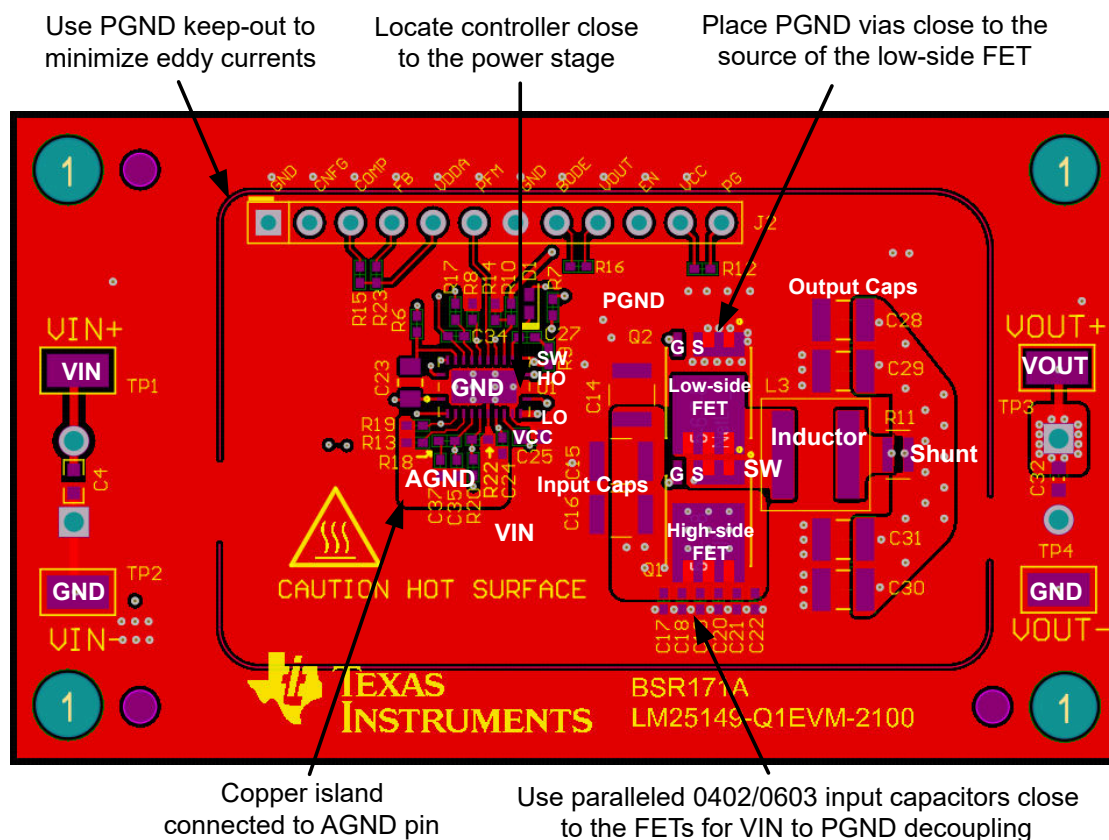

Figure 8-47. PCB Top Layer – High Density, Single-sided Design
Figure 8-47 shows a single-sided layout of a synchronous buck regulator with discrete power MOSFETs, Q1 and Q2, in SON 5-mm × 6-mm case size. The power stage is surrounded by a GND pad geometry to connect an EMI shield if needed. The design uses layer 2 of the PCB as a power-loop return path directly underneath the top layer to create a low-area switching power loop of approximately 2 mm². This loop area, and hence parasitic inductance, must be as small as possible to minimize EMI as well as switch-node voltage overshoot and ringing.
- Make the ground connections to the LM5148-Q1 controller as shown in Figure 8-47. Create a power ground directly connected to all high-power components and an analog ground plane for sensitive analog components. The analog ground plane for AGND and power ground plane for PGND must be connected at a single point directly under the IC – at the die attach pad (DAP).